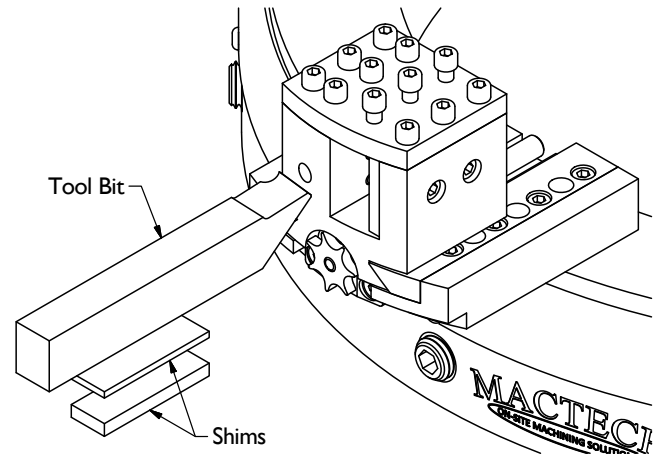

Figure 10 - Install Tool Bit and Shims
- Insert a tool bit into each tool block. Use shims to position the tool bit as necessary. Each tool block must use the same thickness and quantity of shims. Limit the distance the tool bit extends out of the tool block for greatest rigidity. A rigid setup will help achieve the best performance, accuracy and quality of cuts. See Figure 10.